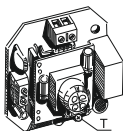

Fig. 5.3
**The fan with the timer and movement sensor** switches on when a person moves at the distance from 1 till 4 meters with viewing angle of the sensor of 100° horizontally. After the person stops moving the fan continues working during the set time T, which is regulated from 2 till 30 minutes. The time T is regulated by turning the potentiometers clockwise to increase and anticlockwise to decrease the delay time (Fig. 5.3)